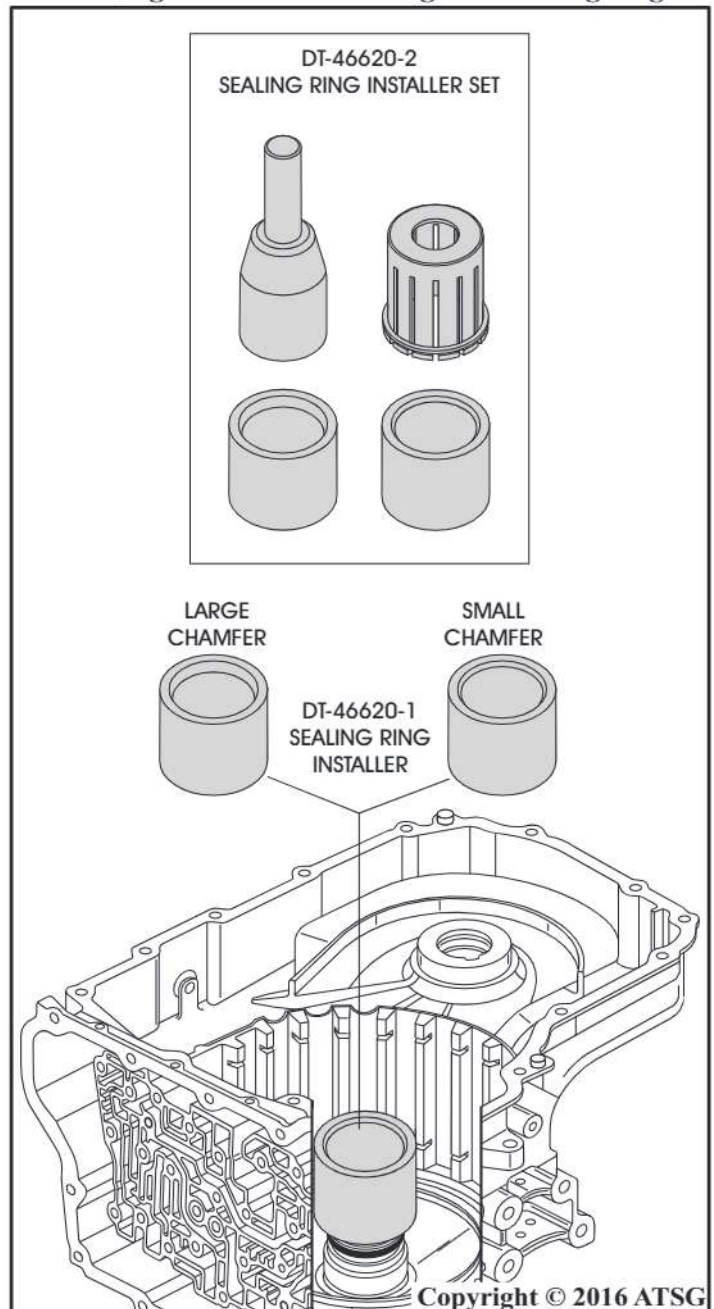

Figure 148
24. Now install the DT-46620-1 sealing ring sizer over all sealing rings with the **small chamfer facing up** and carefully assist the rings into the groove so the sizer slips smooth over all rings as shown in Figure 148.